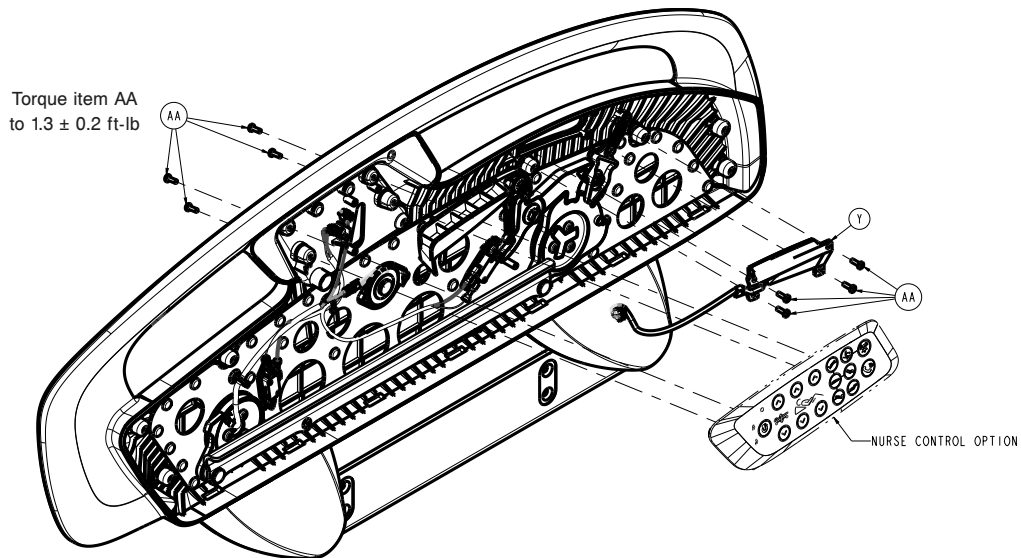

Figure 54 – Replacing the nurse control board
10. Using a T20 Torx driver, remove the four screws (AA) that secure the nurse control board to the siderail hoop (Figure 54). Save the screws. Allow the nurse control board to hang.
- Using a T20 Torx driver, remove the four screws (AA) that secure the patient control board (Y) to the siderail and unplug the cable (Figure 54).
12. Using a T20 Torx driver, remove the four screws (AA) that secure the patient control board (Y) to the siderail hoop (Figure 54). Remove and save the board and cable.
13. Using a T20 Torx driver, remove the two screws (AA) that secure the speaker (V) to the siderail hoop. Save the screws. Remove and save the speaker.